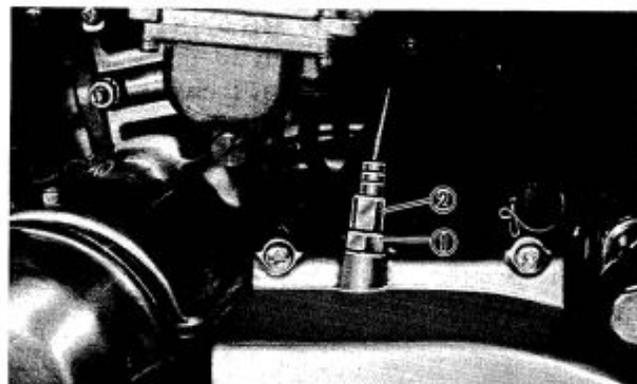

Fig. 2-214
4. Set the adjuster ② (shown in Fig. 2-214) to provide a clutch lever play ⑤ of 4 mm (0.16 in), and tighten the lock nut.